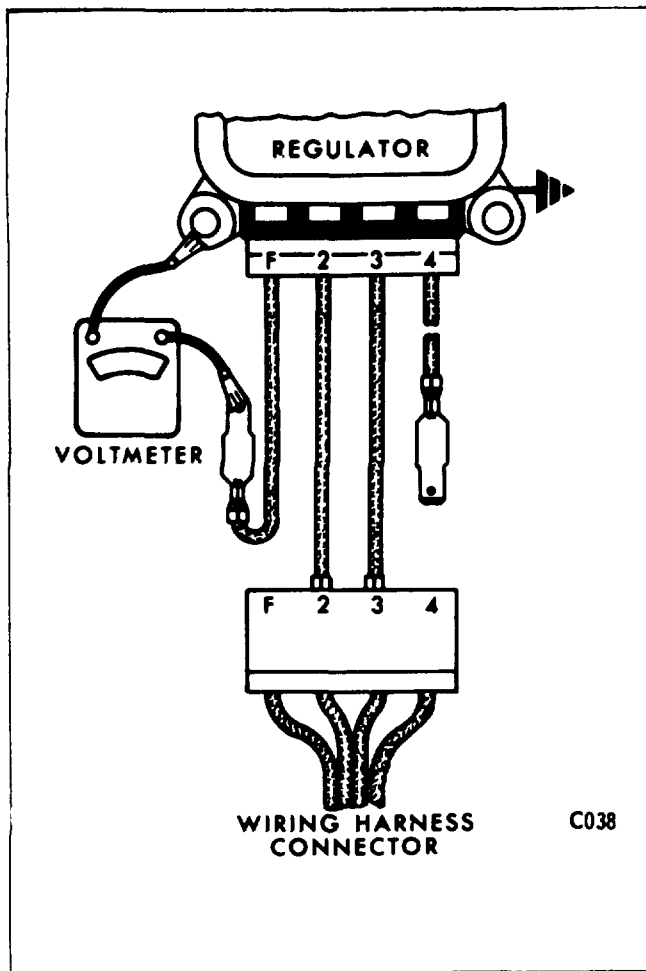

Figure 29.
3. Malfunction of Field Relay: To check the relay, make connections to the adapter as shown in Figure 29; turn the switch to the "IGN" position, and observe the voltmeter. The reading should be battery voltage. If the reading is zero, either the line between the